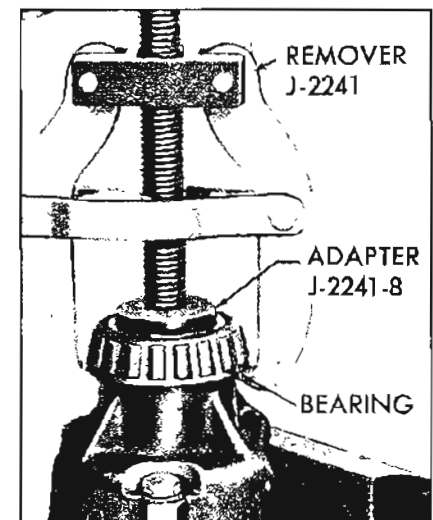

Figure 6-12—Removing Differential Side Bearing
1. If differential side bearings are to be replaced, insert Remover Adapter J-2241-8 in center hole and pull bearing using Puller J-2241 or Hydraulic Puller J-9005. See Figure 6-12.